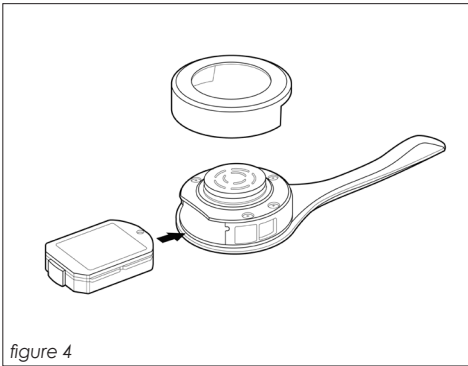

figure 4
- Place a battery into each headset, by removing the outer sleeve on the body of the headset using your fingernail. *(figure 4)*